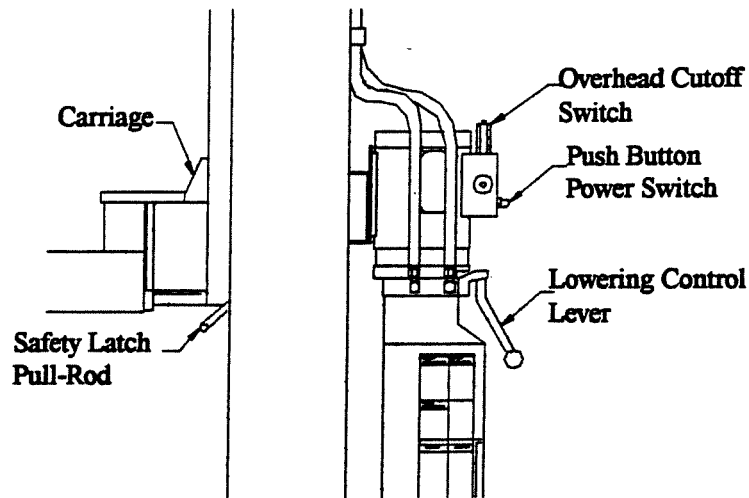

FIGURE 14
31. Lower the lift to the ground. To do this, first manually raise the carriages just enough to release the latches using the push button switch on the power unit. Pull out the latch pull rods under each carriage, then lower the lift by pushing the lowering control level on the power unit. **KEEP FEET OUT FROM UNDER THE CARRIAGES. THEY CAN DROP VERY SUDDENLY.** Figure 14 on following page.